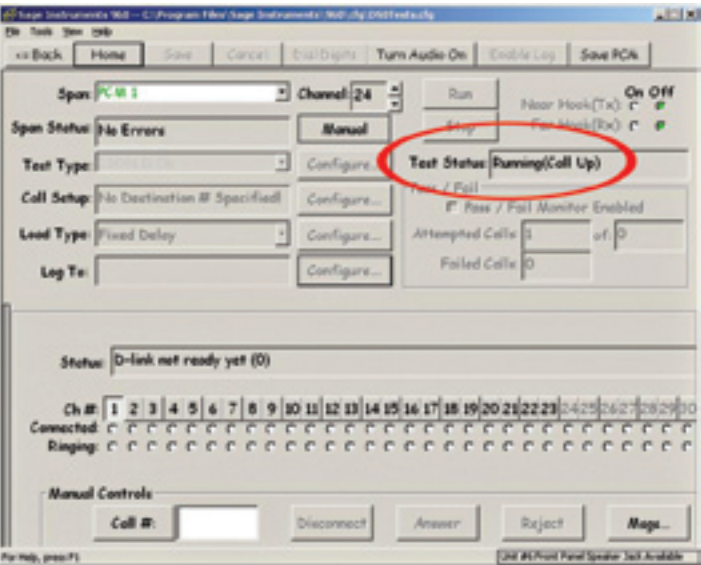

Figure 124
7. To monitor the ISDN D Channel test in progress, double click on channel 24 to return to the main test screen. Notice that the ISDN D Ch. test is now selected in the test pull down menu and the test status is “Running” (see figure 124).